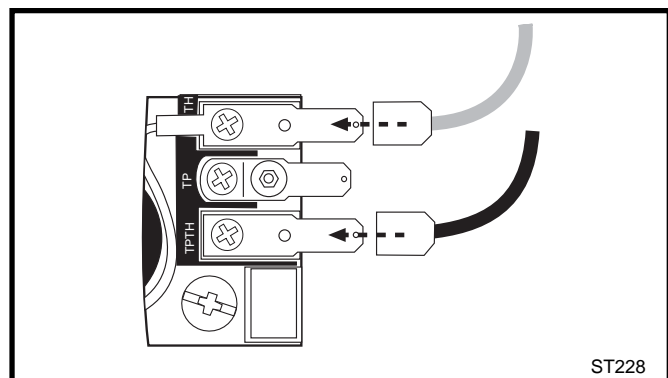

Fig. 13 Attach switch wires to valve.
3. Attach wires to valve terminals. (Fig. 13)
2. Connect the thermostat wires to the valve. (Fig. 13)